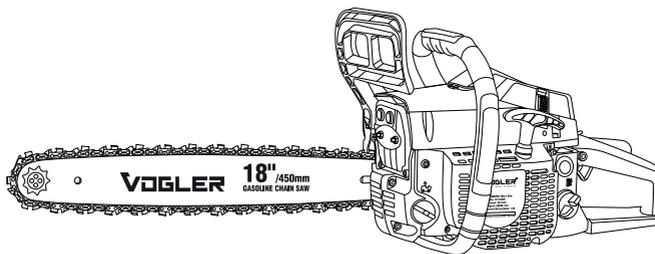

Fig. 4
- Remove the bar lube reservoir cap (Fig. 4).